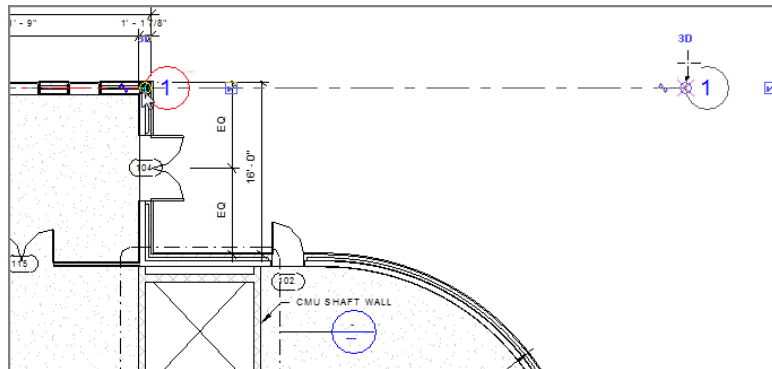

FIGURE 8.4: Dragging the column bubble to the right
7. Pick that round blue grip, and drag the column bubble to the right about 50' (15,000mm), as shown in Figure 8.4.